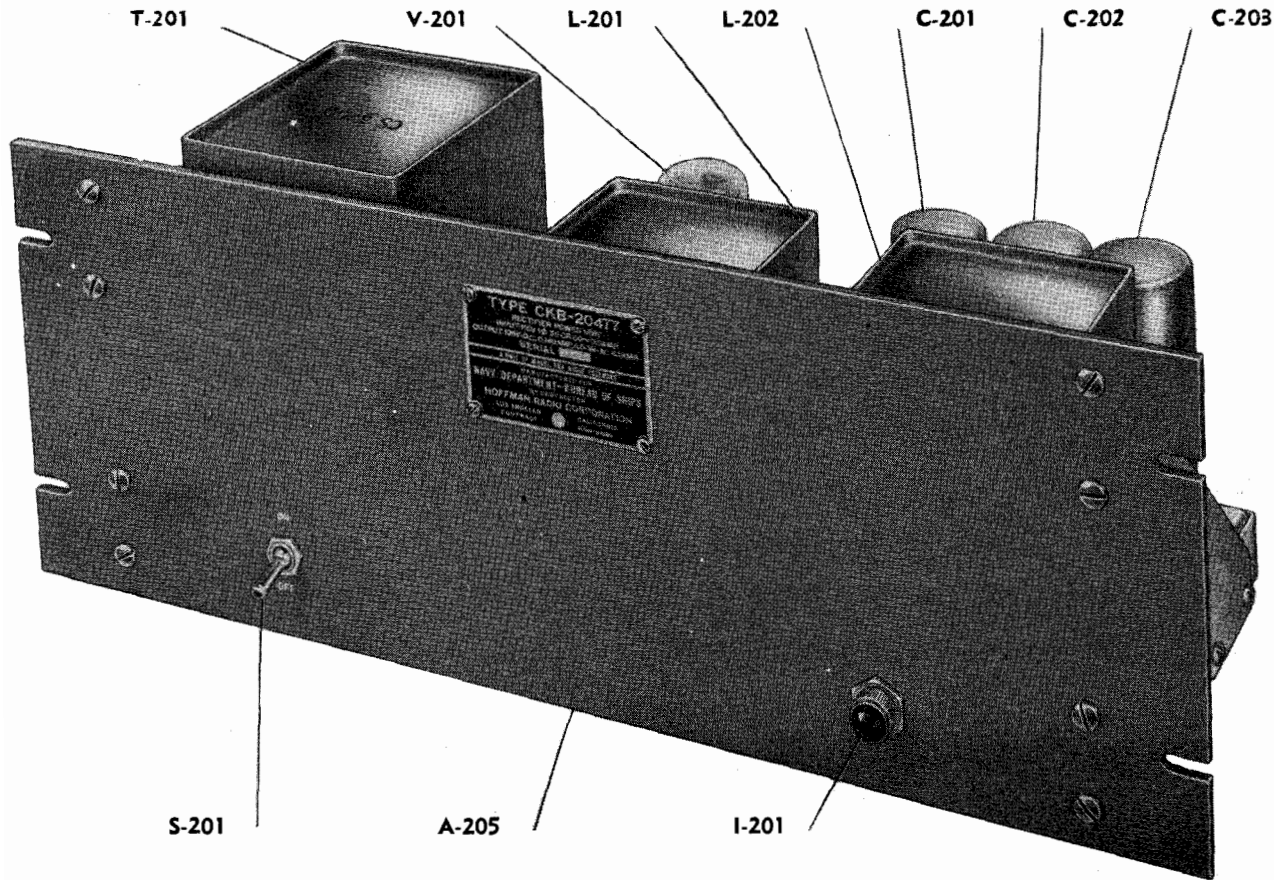

Figure 1-3. Model RXA Antenna Multicoupler Assembly, Rectifier Power Unit
*b.* RECTIFIER POWER UNIT. (See figure 1-3.)—This unit supplies all plate and heater power required for the multicoupler unit and operates on a power source of 115 volts, plus or minus ten percent, 50 to 60 cycles single phase alternating current. The power switch and pilot light are mounted on the front panel. Two extractor type fuse holders, each housing a 1-ampere type 4AG fuse, are located at the rear of the chassis. A four-contact power output receptacle, and a three-contact a-c power input receptacle are both mounted at the rear of the chassis directly behind the power transformer.